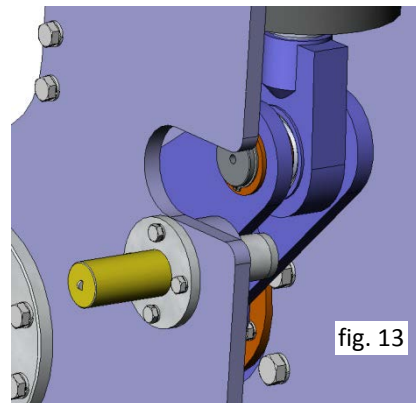

fig. 13
**Mechanical locking system (fig. 13):**